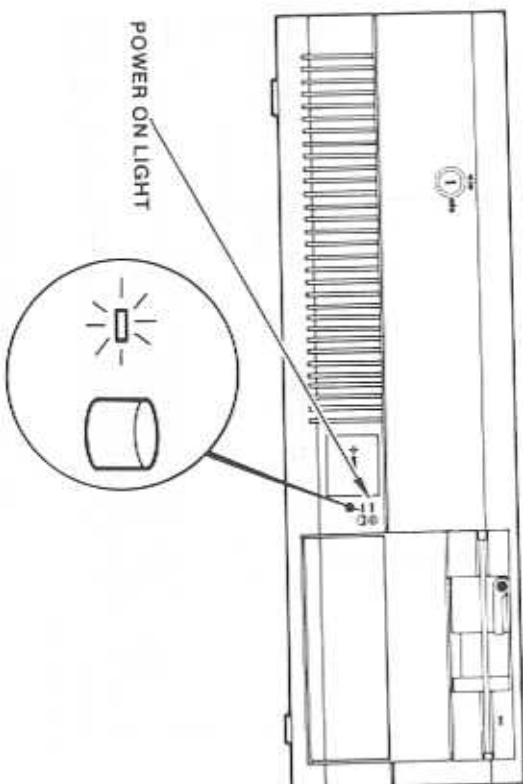

Figure 5-7. System Startup Test — Power On and Fixed-Disk Drive
1. The fan on the system unit rear panel starts, and the power on light on the front panel turns on (Figure 5-7).